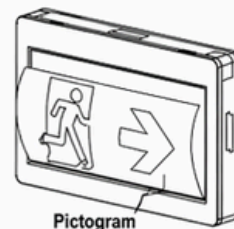

Fig 7
9. If pictogram direction assembled not suitable, pictogram can take out for change direction or replace pictogram, and then insert into the di user easily (See Fig 7).